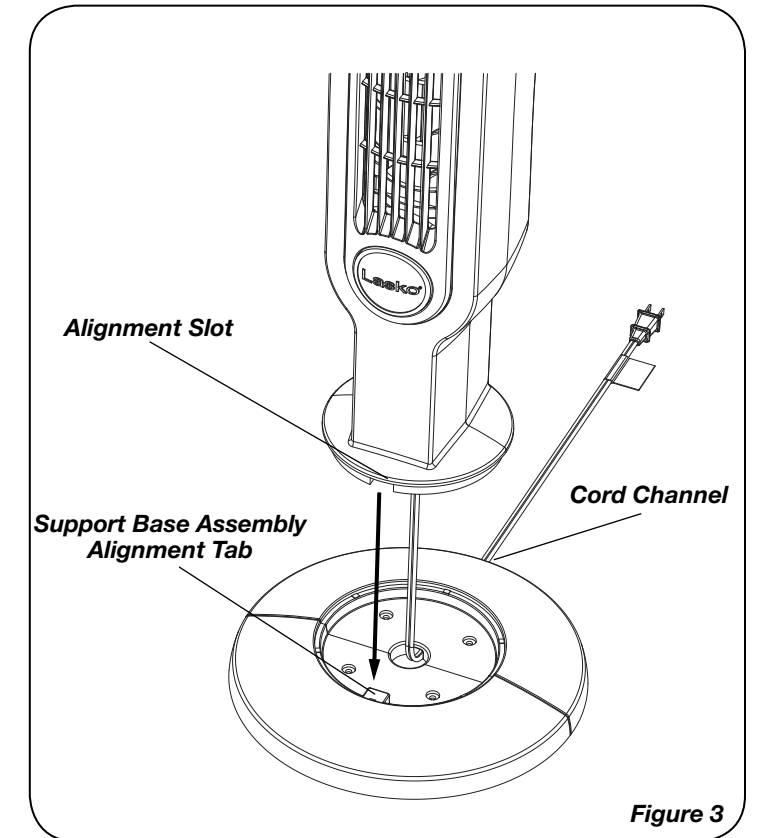

Figure 3
4. Align the **Support Base Assembly Alignment Tabs** with the alignment slots on the bottom of the fan, noting that the cord channel on the bottom of the support base should be towards the back of the Fan. (Figure 3)